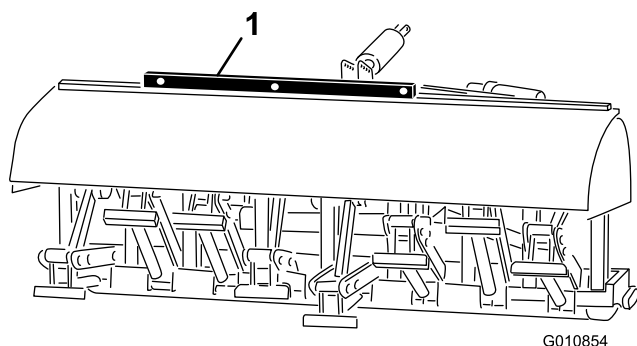

Figure 23
2. Place a level on top of the aerator frame to check for level side-to-side (Figure 23).